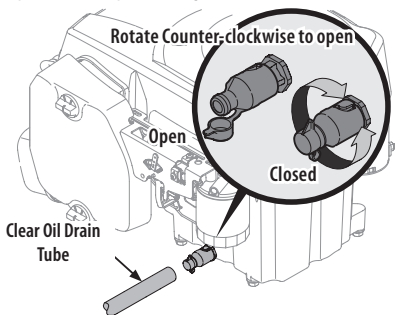

Figure 27
4. Open the protective cap on the end of the oil drain valve to expose the drain port. See Figure 27.